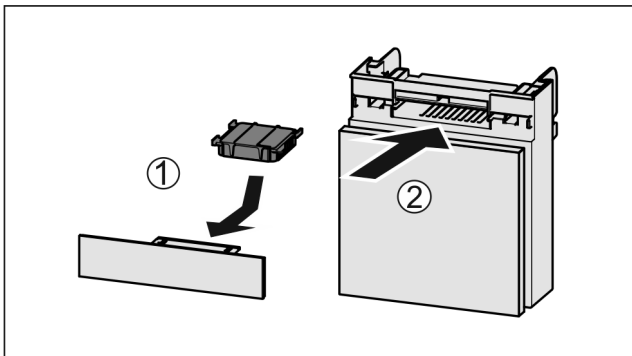

Fig. 141
- ▶ Insert the carbon filter as shown in the diagram Fig. 141 (1).
- ▶ Push the compartment in Fig. 141 (2).